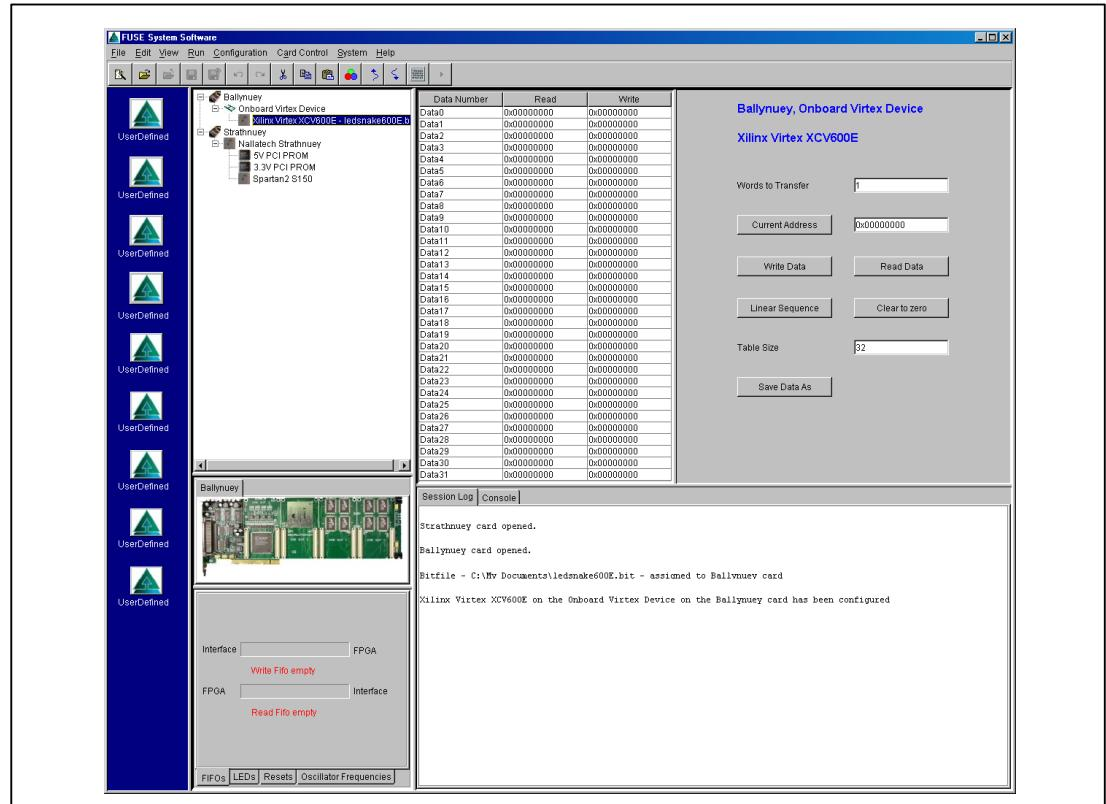

Figure 10: FPGA configured
4.  To configure the device select it in the tree display, then in the **Configuration** menu bar click on **Configure Device**. The bitfile is now loaded and the session log updated as shown below in Figure 10: